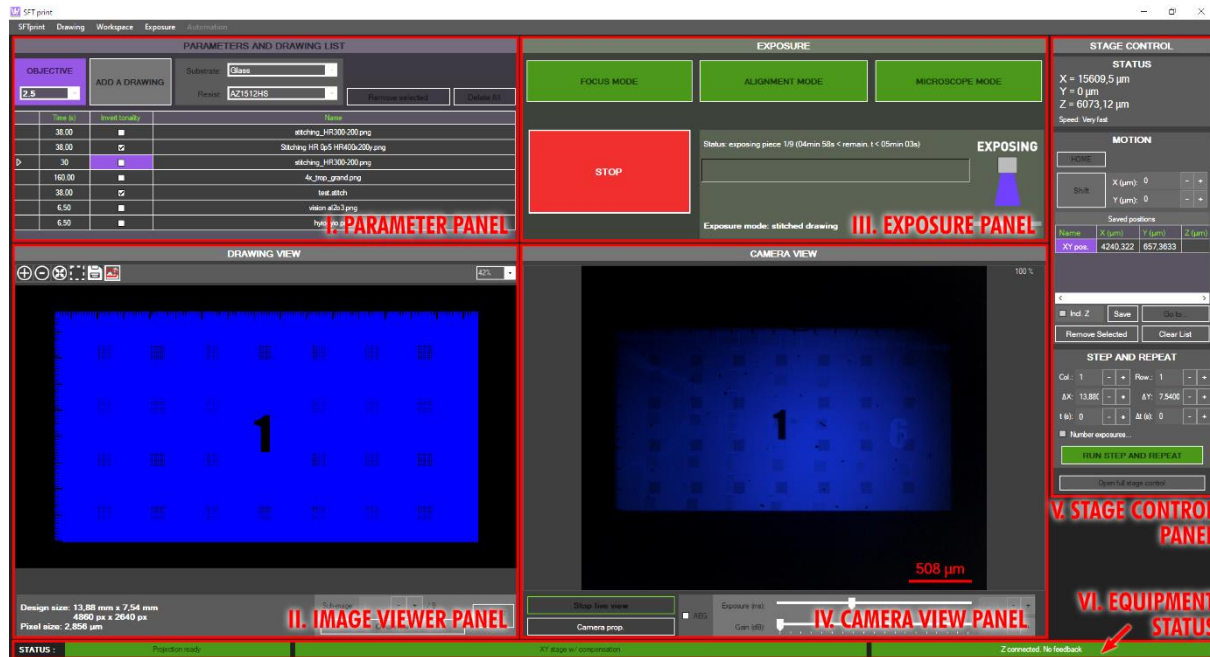
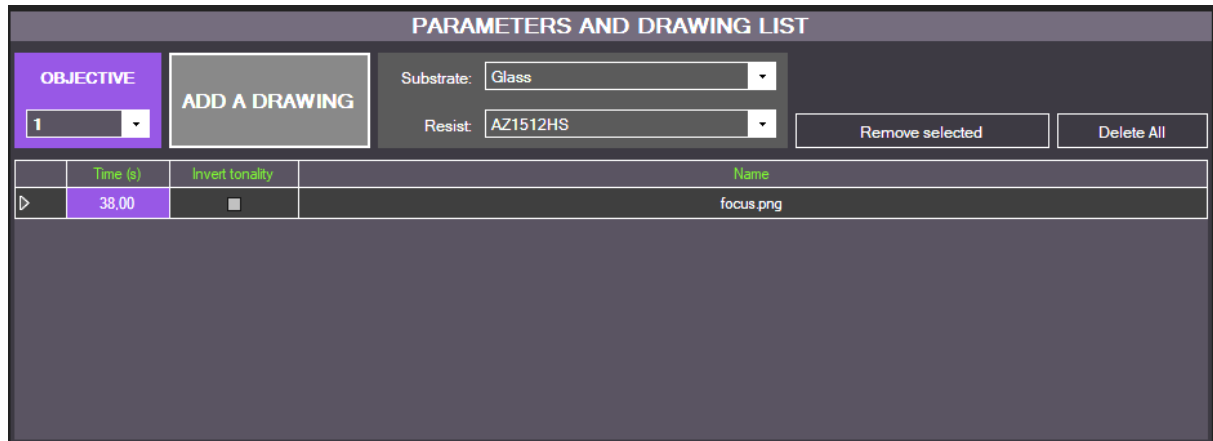

Figure 10 – SFTprint main window
Figure 11 – « Parameters and drawing list » panel
- On the panel **PARAMETERS AND DRAWING LIST** (Figure 10), choose your objective, substrate and resist from the corresponding drop-down lists (Figure 11)
- Click on **FOCUS MODE** in the **EXPOSURE** panel (Figure 10). Ensure that the protection filter is unloaded (Figure 13)
- Load the sample to be exposed, click on **EXPOSE SELECTED DRAWING** (Figure 10) in the **EXPOSURE** panel
- Click on **FOCUS MODE** in the **EXPOSURE** panel (Figure 10). Ensure that the protection filter is loaded (Figure 13)
- Click on **EXPOSE SELECTED DRAWING** (Figure 10) in the **EXPOSURE** panel
- In the **PARAMETERS AND DRAWING LIST** panel (Figure 10), choose an objective, a resist and a substrate in the corresponding dropdown lists (Figure 11)
For each design added in the drawing list (panel I, Figure 11), three parameters are displayed: